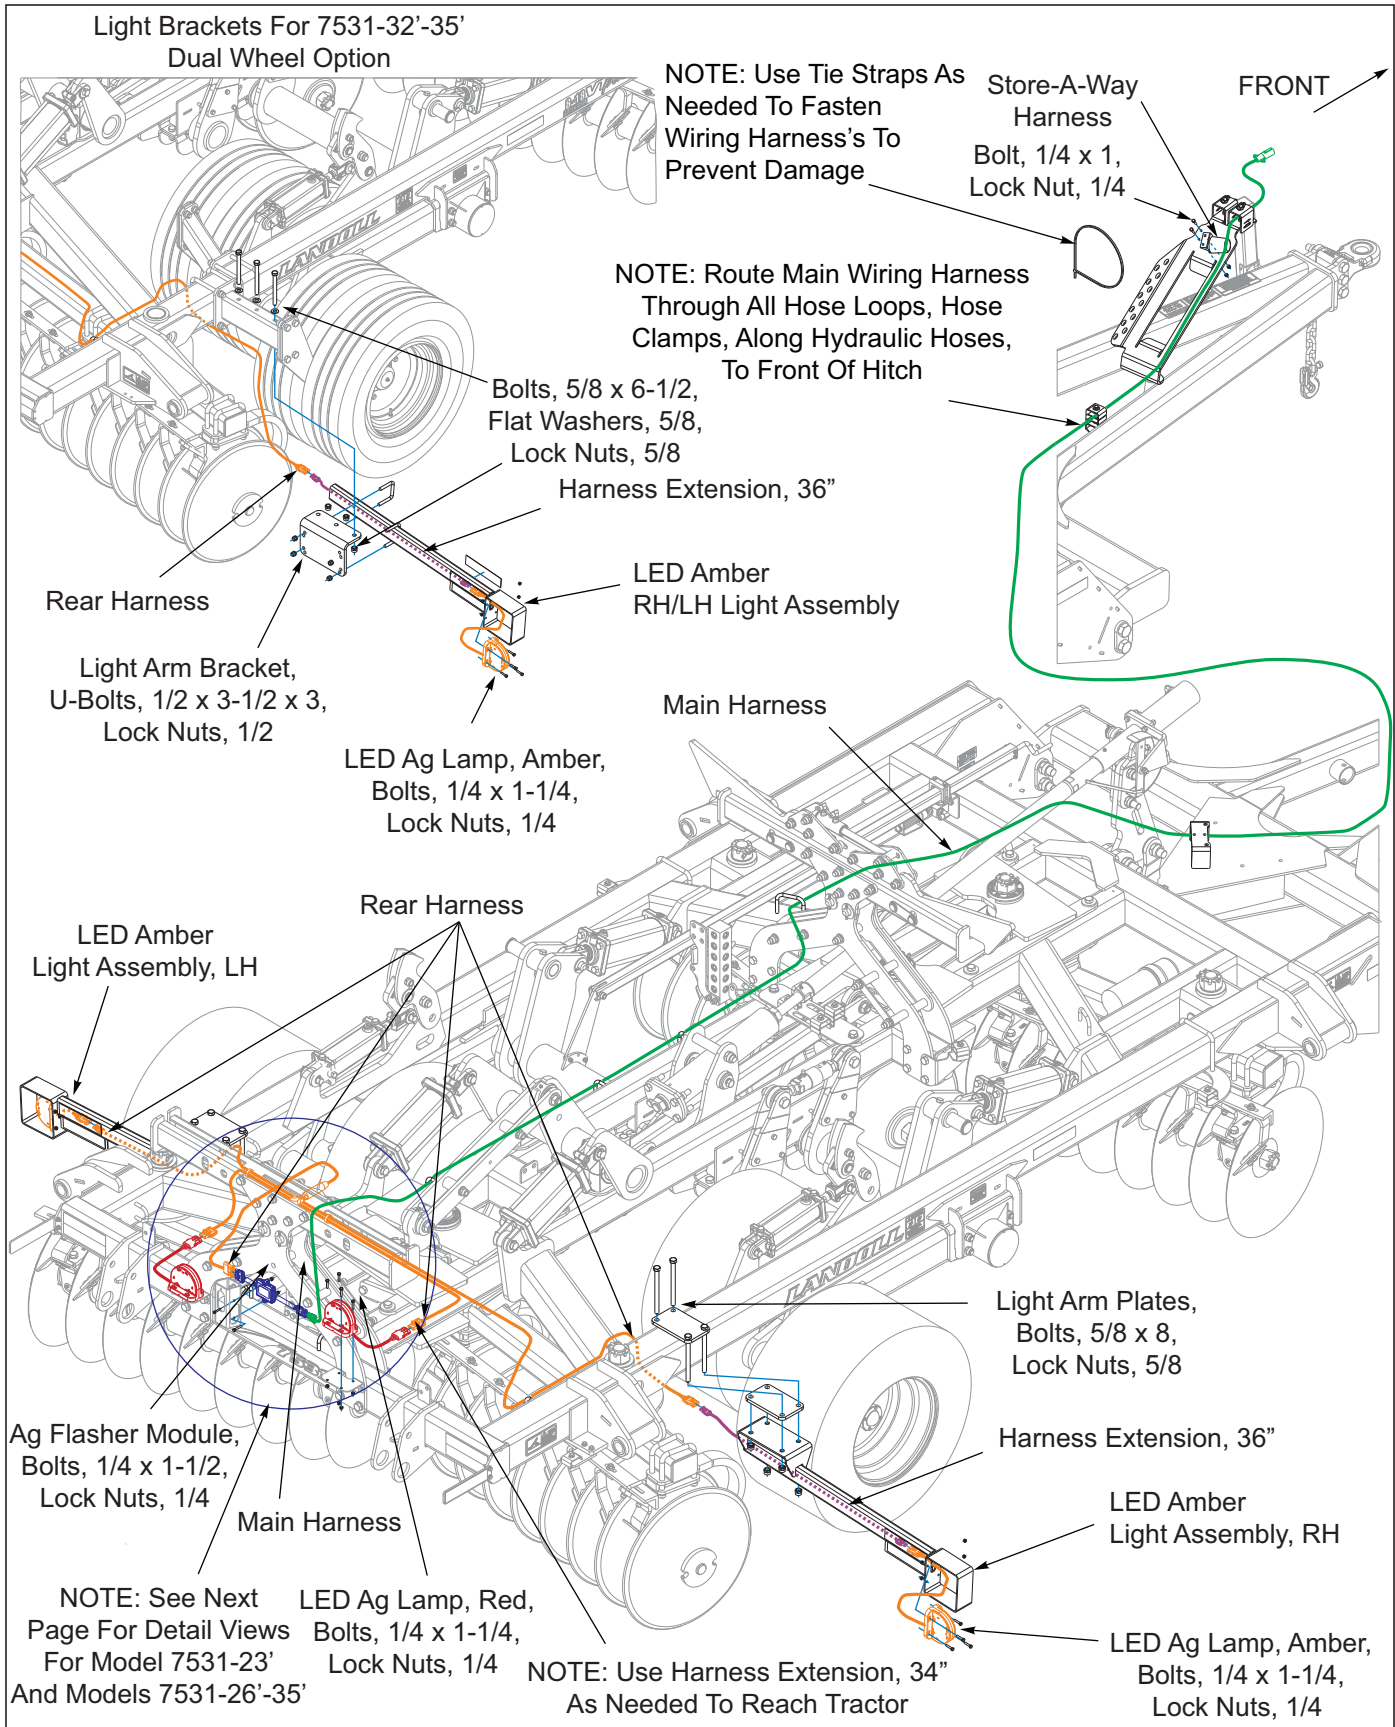

Figure 3-53: Electrical Assembly W/LED Lights (Page 1 of 5)
1. Attach left and right light brackets w/ref to center frame using light arm plates, 5/8 x 8 bolts **See Figure 3-53** and 5/8 lock nuts. The yellow reflectors go to the front side.
2. **Models 7531-32'/35' dual wheel option**, attach the RH/LH light assemblies to outer dual wheel scraper tube as shown **See Figure 3-53**, (Detail View) with light arm bracket, 5/8 x 6-1/2 bolts, 5/8 flat washers and 5/8 lock nuts. Attach RH/LH light assemblies to front side of light arm bracket with 1/2 x 3-1/2 x 3 u-bolts and 1/2 lock nuts. The yellow reflectors go to the front side.
9. Attach ag amber single LED lamps to light brackets using 1/4 x 1-1/4 bolts and 1/4 lock nuts **See Figure 3-53**.